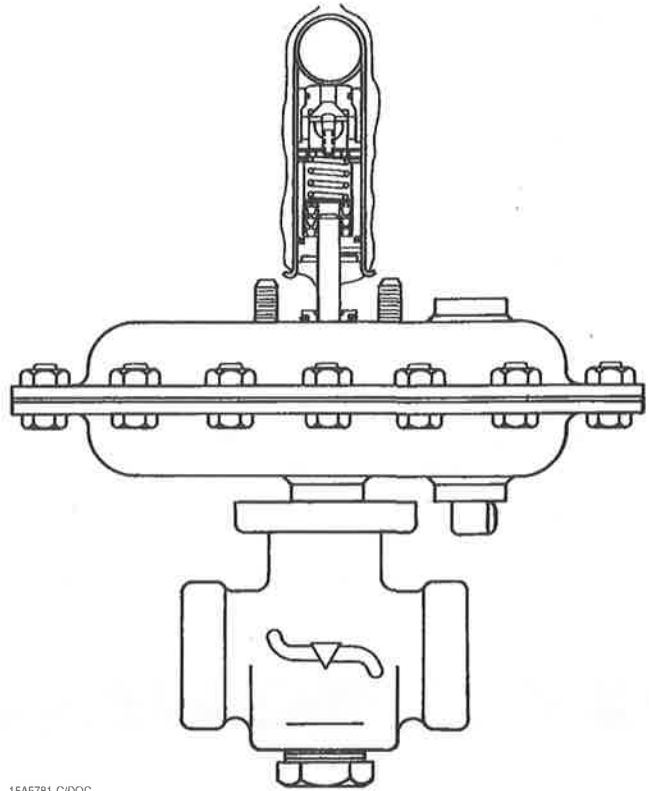

Figure 4. Installing Replacement Packing and Trim Assembly on Valve Stem
4. Pull the packing box (key 9), O-ring retainer (key 39), O-ring (key 11), and diaphragm casing O-ring (key 35) off the stem.
5. Install the packing and trim assembly or individual parts over the stem as shown in figure 4. With a packing and trim assembly, remove the assembly from the tube (key 42), but do not remove the web sleeve (key 43) from the assembly. The sleeve helps to keep the assembly parts in place during installation; roll back the sleeve as necessary during installation of the assembly.